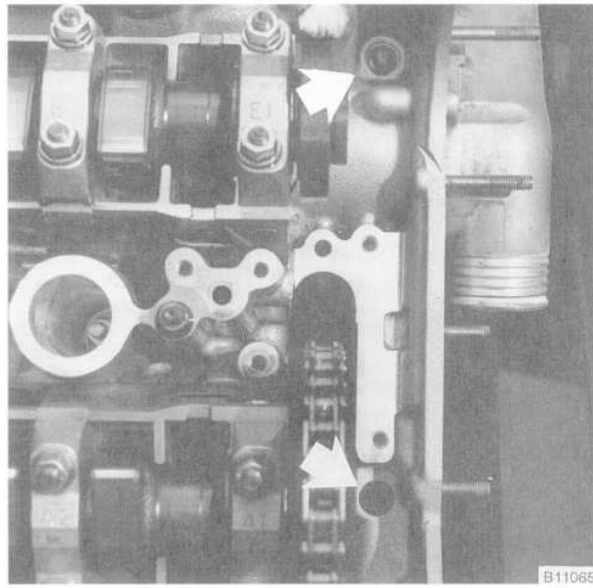

Fig. 25. Cylinder head-to-timing chain cover mounting bolts (arrows).
36. Using a Torx E8 socket, remove the two mounting bolts holding the cylinder head to the lower timing chain cover. See Fig. 25.